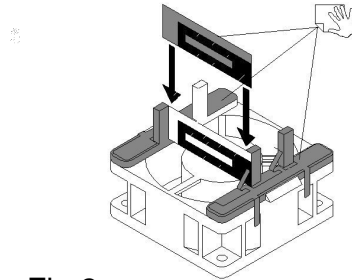

Fig 2
- Check the ceramic plate is properly fitted in the fan assembly. Check the plate orientation and ensure electrical contact is made, see Fig 2.